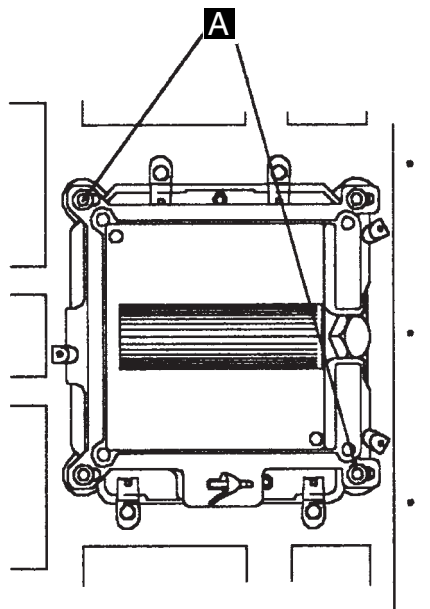

Figure 4-84. TCM Retaining Screws
9. Referring to Figure 4-84 on page 4-106: